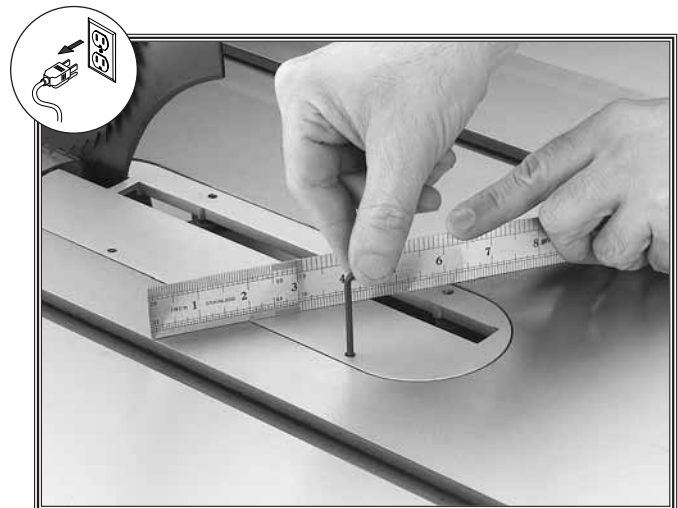

Figure 40. Adjusting table insert height.
2. Place a straightedge across the table surface and adjust the setscrews, as shown in **Figure 40**, to make the insert flush with the top of the table.